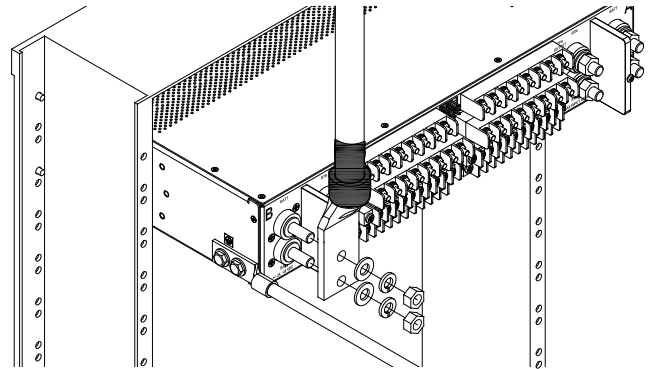

Figure 5 - Input Lugs
15. Connect the lugs to the input terminals on the back of the panel, as shown in Figure 5.